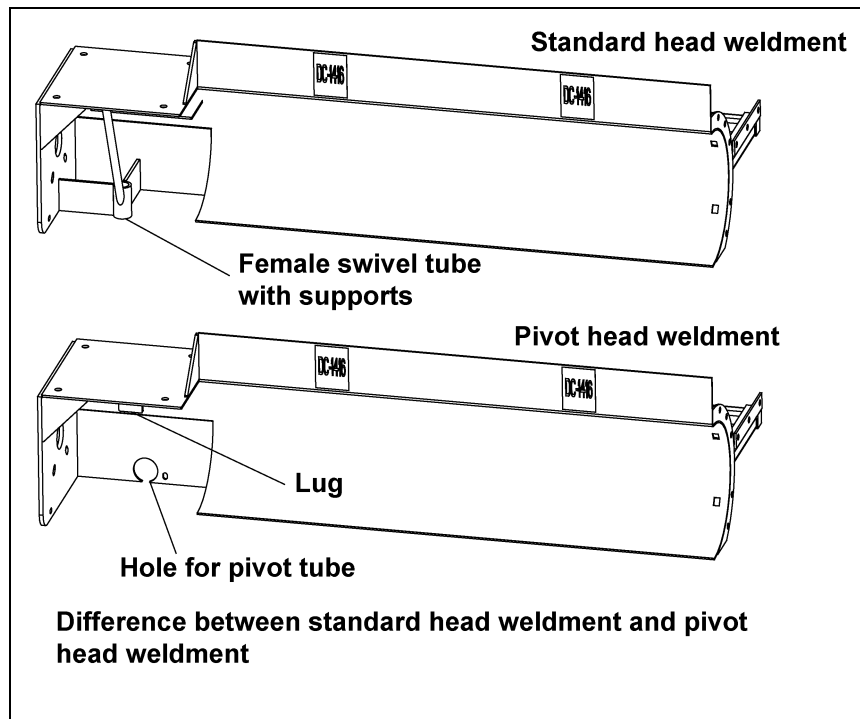

Figure 11A
The following drawing (*Figure 11A*) is of a 16" pivot sweep head end weldment and a 16" standard sweep head end weldment. There are very few differences between the two. The standard head weldment has the female pivot tube welded to the drive end of the unit. Two (2) plate braces and one pipe brace support this tube. The pivot head weldment has a lug welded to the underside of the motor mount plate. This lug is for attachment of the sweep pivot rod assembly. There is a large hole in the rear plate for the center support tube assembly to pass through. Next to the large hole is a slot that the center support mounts to.